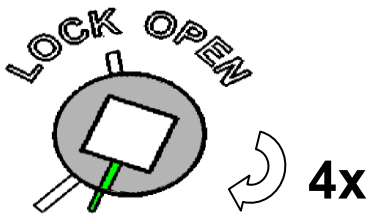

Figure 1
2. Turn the cam clockwise minimum 4 complete turns and stop when the cam is lined up as shown in figure 1.